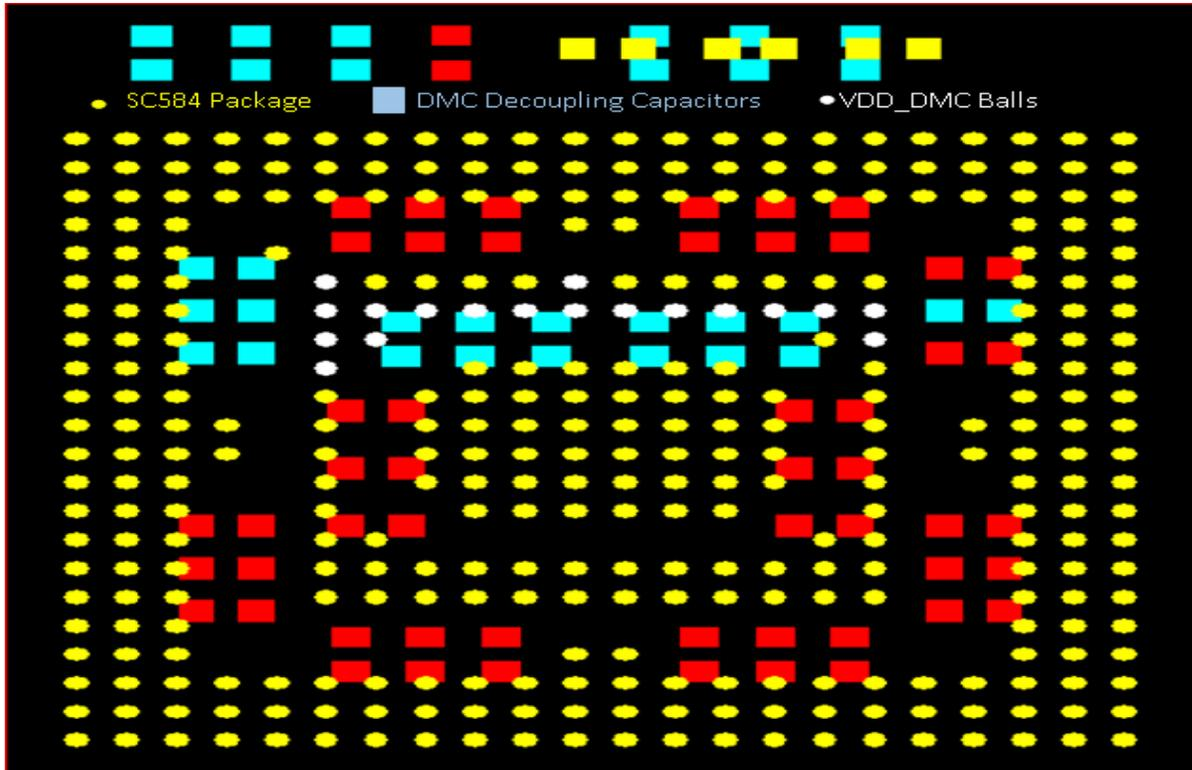

Figure 10. Sample VDD\_DMC Decoupling Capacitor Placement for the ADSP-SC584 Device
- The decoupling capacitors for the VDD\_DMC power rail should be placed as close as possible to the pin. This is very important, as DDR signal slew rates are really aggressive, so having these capacitors closer to the pin is a must (Figure 10).